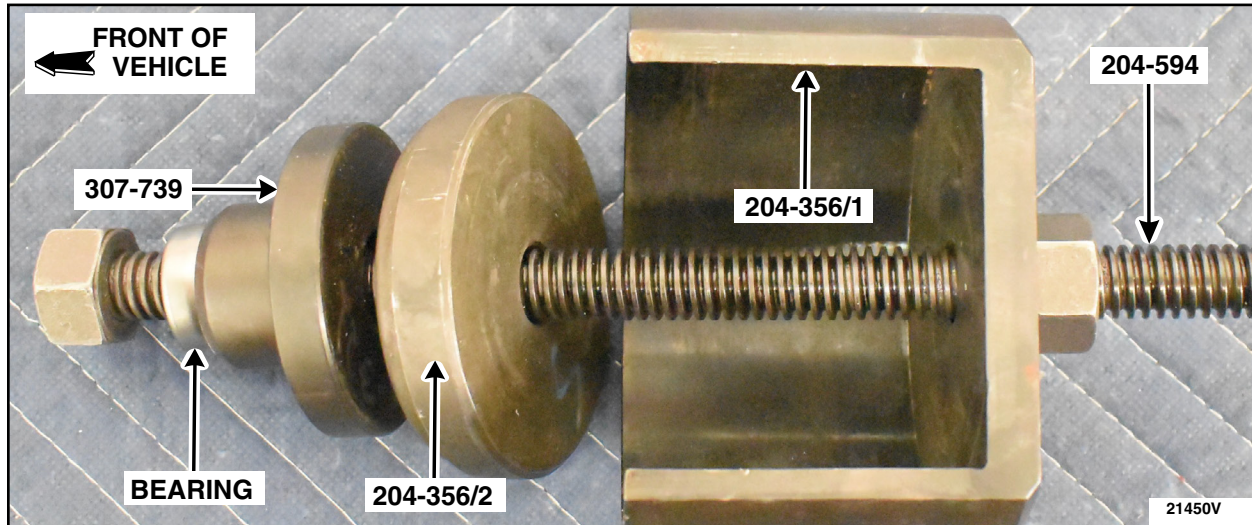

FIGURE 6
11. Using the Special Service Tool: 204-594 Forcing screw, 204-356/1 Remover/Installer, Radius Arm Axle Bushing, 204-356/2 Remover/Installer, Radius Arm Axle Bushing, 307-739 Installer, R3 Bearing, and 205-153 Adapter for 303-224 (Handle) and press out the rear axle assembly subframe bushing. See Figure 6.